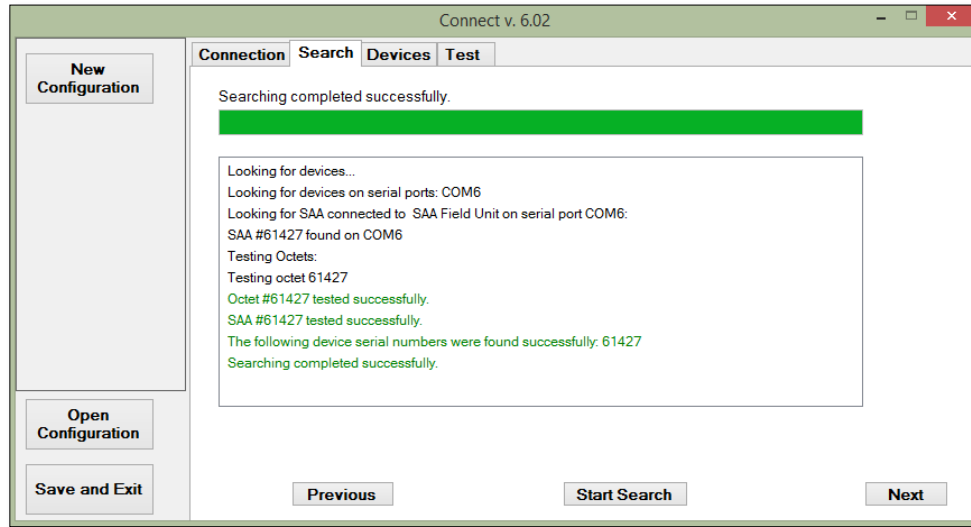

Figure 6.13: 'Search' tab while connecting SAA.
1. The Search tab. SAAREcorder looks for SAAs on each of the previously selected serial ports and / or SAA232-5 channels and tests communications with each microprocessor of an SAA. Each microprocessor has a unique serial number and is responsible for one "octet" (group of 8 segments). If the search is successful (see **Figure 6.13**) and the expected device(s) are found, click 'Next'.